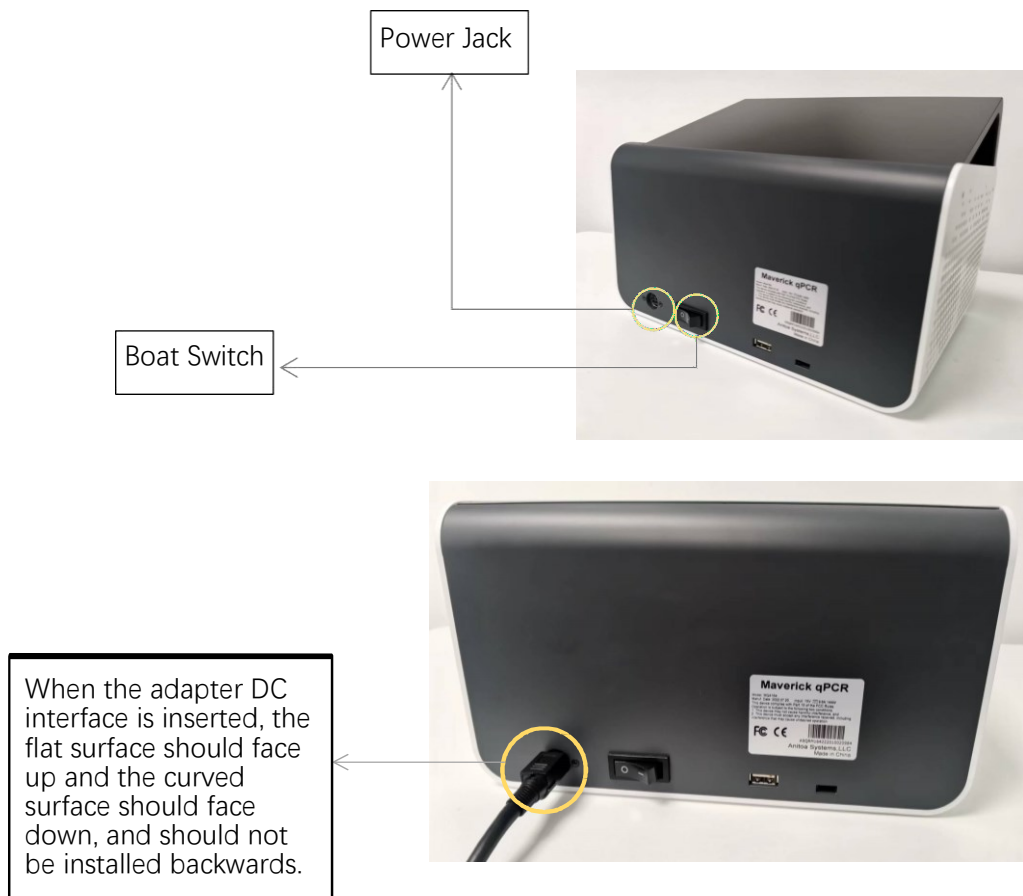

Figure 3-5-1 Back of the instrument
- 1) Insert the DC connector into the power jack of the instrument and hear the "click" sound to indicate that it is inserted in place, as shown in Figure 3-5-1.